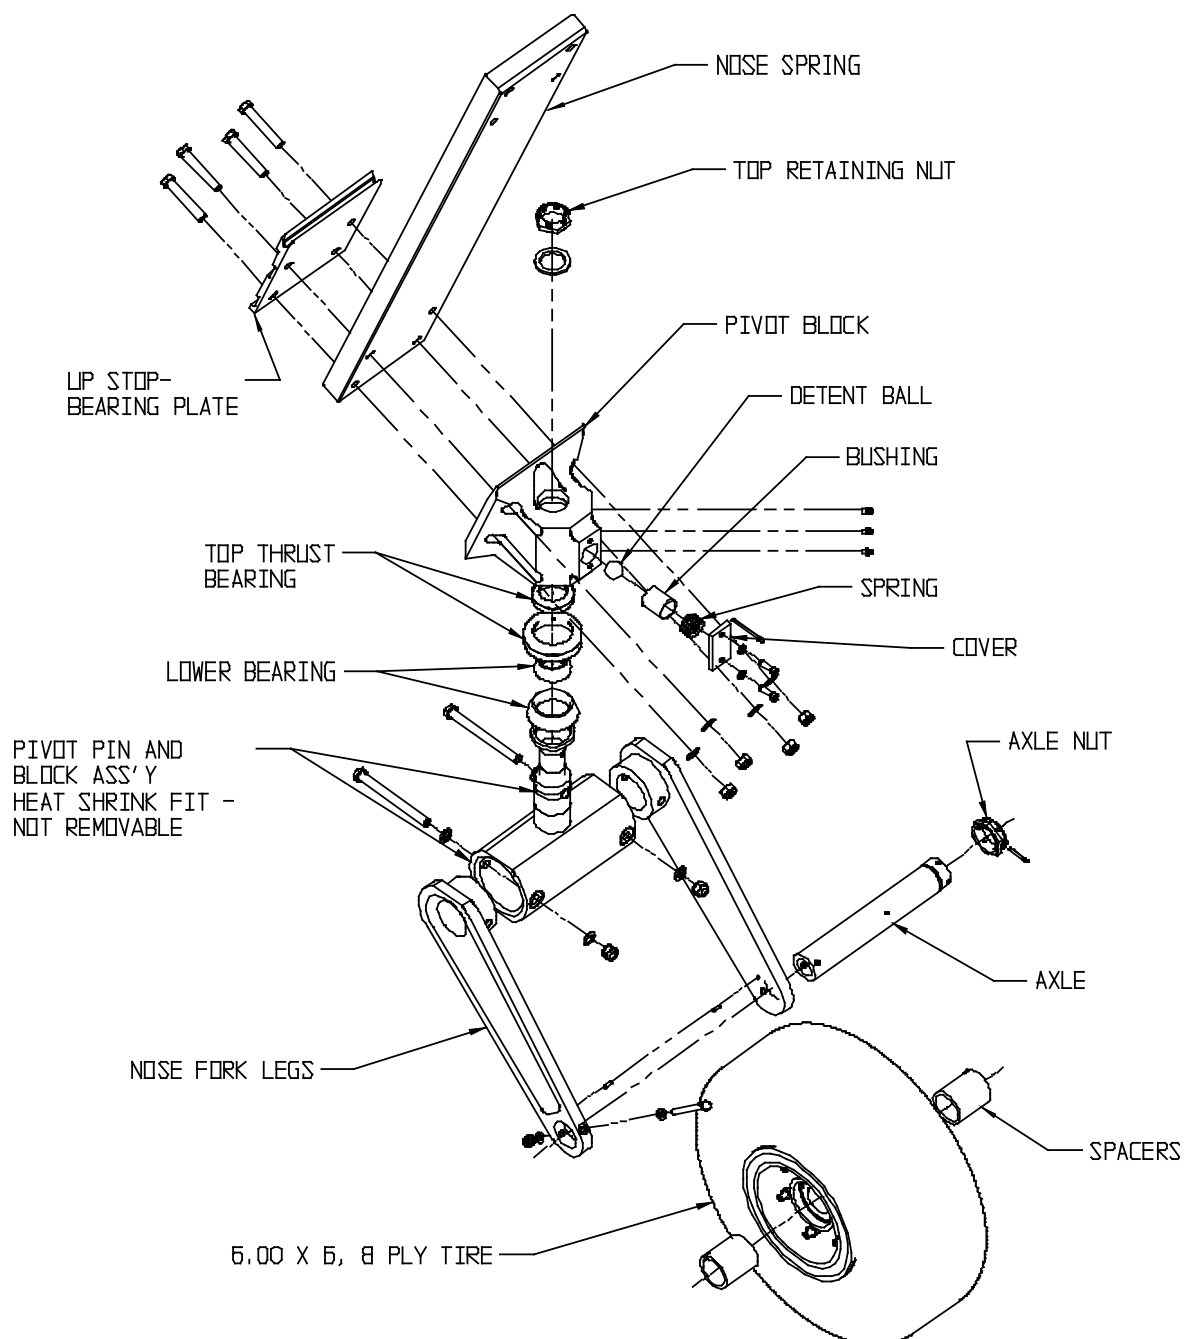

FIGURE 2.10
On top of pivot block, remove cotter pin from retaining nut. Remove nut. On aft side of pivot block, remove the (2) cap bolts on .25 thick cover. Remove spring. This will loosen retaining ball and lower fork will slide out. Refer to figure 2.10 for assembly.